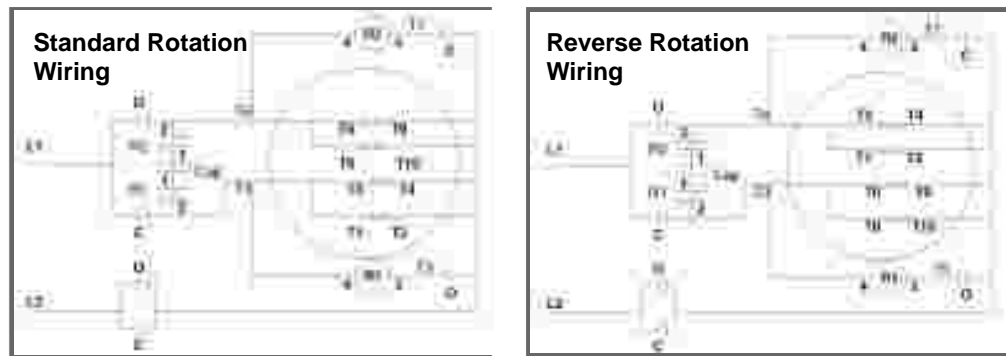

Figure 19 - Standard motor rotation and reverse motor rotation wiring diagrams for dual voltage, capacitor start, induction run, single phase low voltage motors
- a. Low voltage motors are connected for opposite rotation as shown in the changes between the *Standard Rotation* configuration and the *Reverse Rotation* configuration in Figure 19. This is accomplished by interchanging the two leads T1 and T3 coming from the motor with the two leads T6 and T8 also coming from the motor. No other changes are necessary.